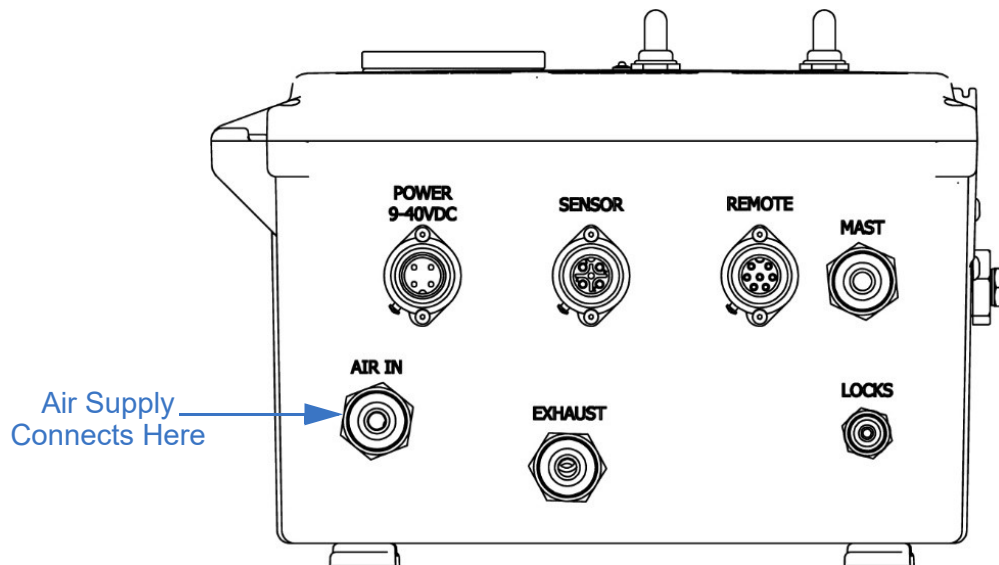

Figure 5-22 Control Box “AIR IN” Connection
2. Connect the air supply to the control box through the “AIR IN” push connect (Figure 5-22).